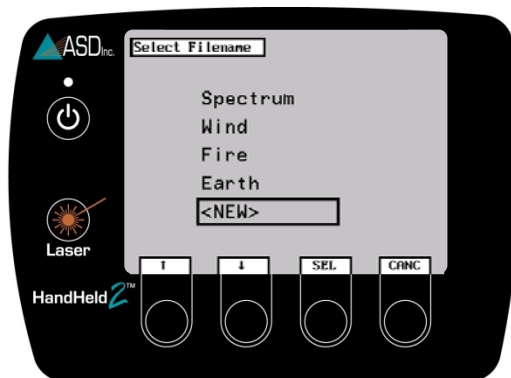

Figure 2-28: Navigate to <NEW>
- Step 3 Navigate to "<NEW>" and press *SEL* button (Figure 2-28).